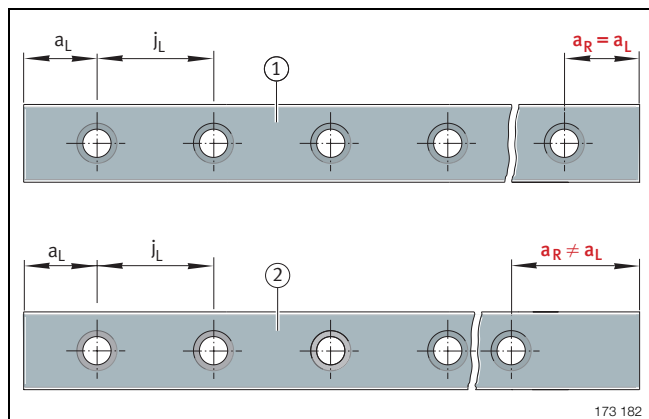

Figure 4 • Symmetrical ① and asymmetrical ② hole patterns for guideways with one row of holes
- $a_L \geq a_{L\min}$ and $a_R \geq a_{R\min}$ (Figure 4).